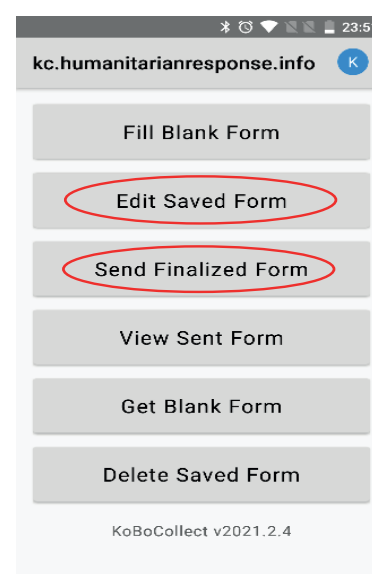
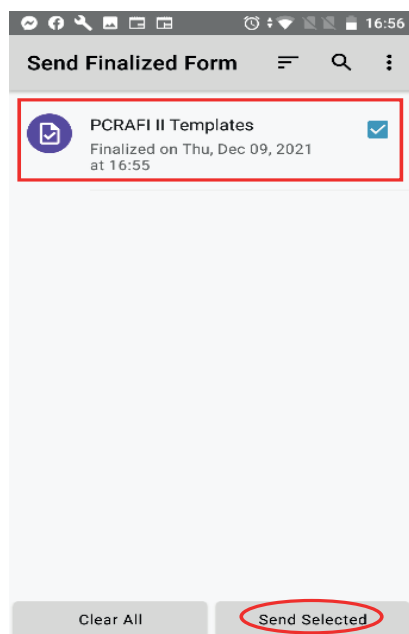
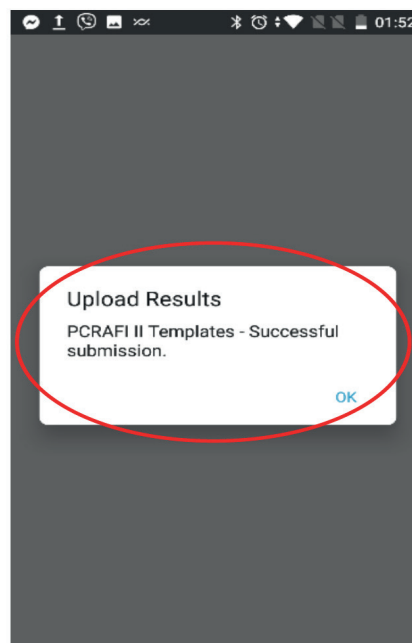

Figure 70: KoBoCollect - Accessing Saved and Finalized Forms
Figure 71: KoBoCollect - Selecting Finalized form to upload to Server
Figure 72: KoBoCollect - Message that appears once successfully uploaded Finalized form to server
5. Click on “Send Finalized Form” (Figure 70). Select name of form filled (eg. PCRAFI II Templates) and then click on “Send Selected”. (Figure 71) The following message will appear once the form has been successfully sent/uploaded to the server. (Figure 72)